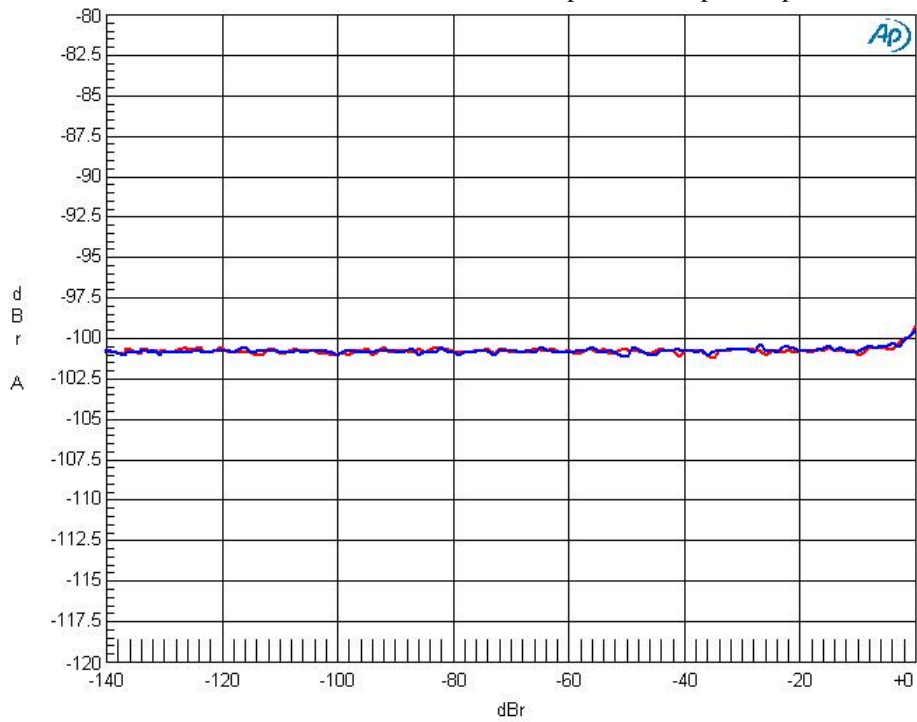

Figure1-4. THD+N vs. Input level (fin=1kHz)
- Figure 1-4. THD+N vs. Input Level (fin=1kHz)